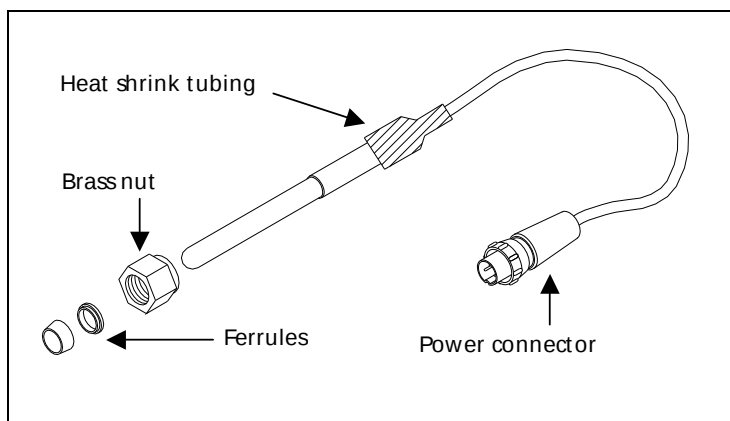
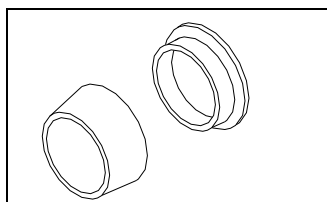

Figure 30: Relative Positioning of Components in the UV Lamp Assembly
Figure 31: UV Lamp Ferrule Orientation Detail
8. Slide the nut up the lamp housing (toward the connector cord), and then slide the ferrules up the lamp housing, until they are level with the black heat shrink tubing. Be careful when inserting the lamp into the Analyzer as the nut and ferrules may slide off. Refer to Figure 30 and Figure 31 for proper orientation of the ferrules.
10. Tighten the brass nut finger-tight. While tightening the nut, make sure it stays level with the heat shrink tubing (Figure 30). Do **not** use a wrench.